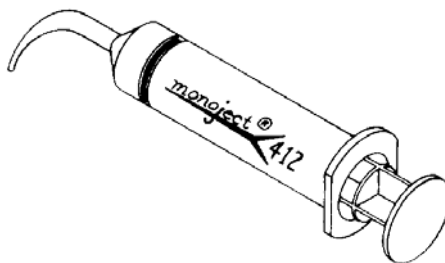

Figure 6-2. Valve test syringe.
b. **Valve Test Syringe.** Use the syringe for making quick tests of the pilot-operated valves. It can apply a static pressure of 5 to 75psi. Refer to figure 6-2.